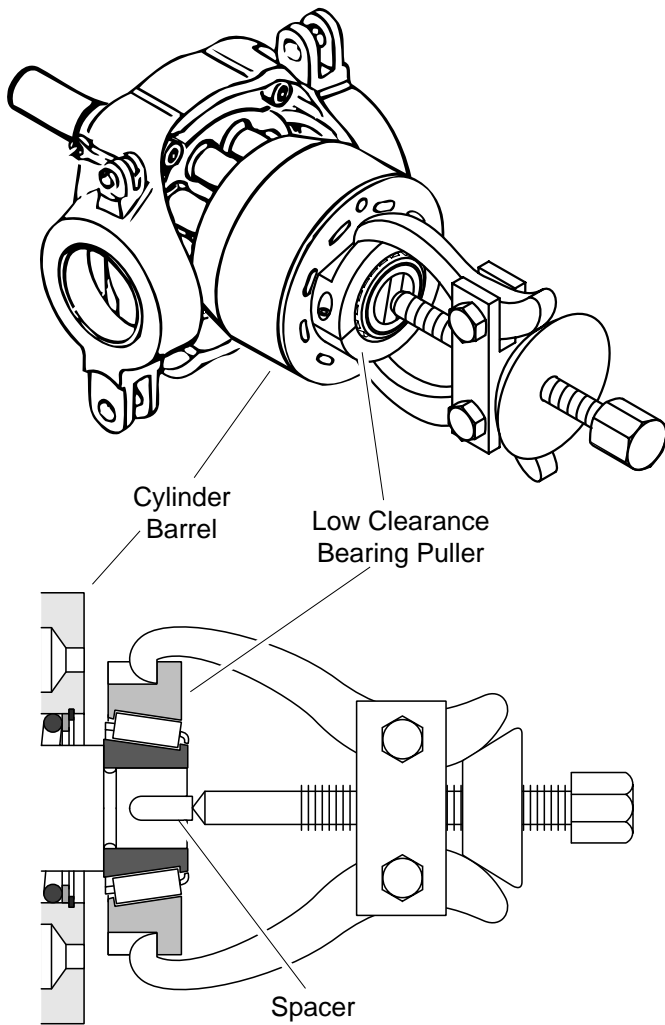

Figure 11
**Note:** Detailed drawings of the low clearance bearing puller and spacer are given in Appendix E. The low clearance bearing puller was designed to protect the cylinder barrel face, see cut-away in figure 11. The spacer will prevent the slotted end of the shaft from spreading.